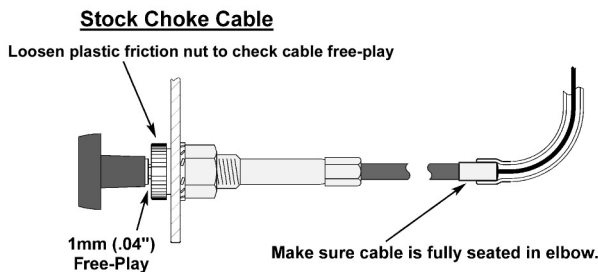

Figure 5: Choke cable free-play
5. Route and install the choke cable. Make sure that the choke cable is fully bottomed and that it has free-play as shown in Figure 5.
2. Fit the cable into its holder on the top motor mount (see Figure 5). Be sure that the lock washer is between the nut and the motor mount.